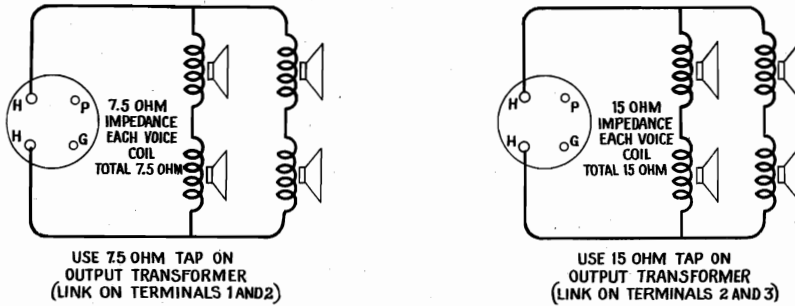

FIG. 3
- Make connections between the loudspeakers and the four pole loudspeaker plug, furnished with the amplifier, as indicated in Figure 3. Insert the loudspeaker plug into the corresponding receptacle on the side of the power amplifier base.
- (c) If the Model PB89A1 power amplifiers are used, connect a set of loudspeakers to each power amplifier as shown in Figure 8. If the Model PB89B1 power amplifiers are used, connect a set of loudspeakers to each power amplifier as shown in Figure 3.